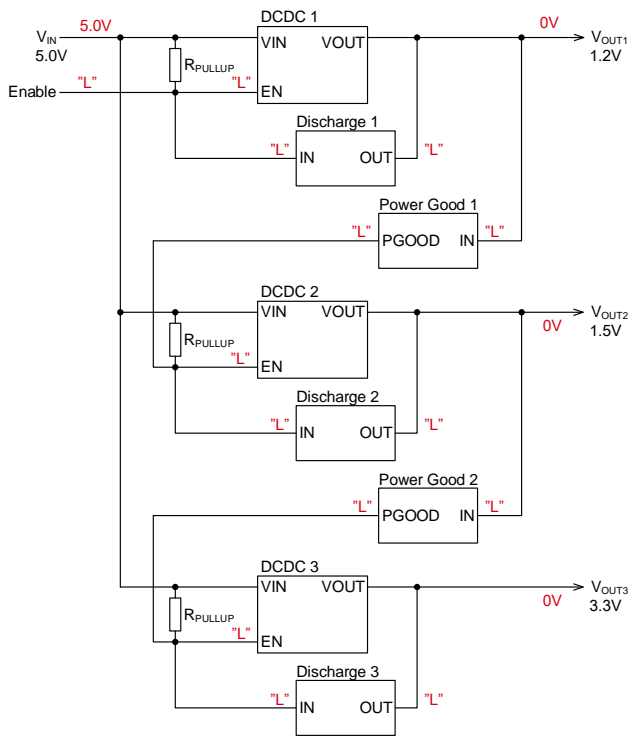

Figure 2-3. Control block diagram
Figure 2-3 shows the control block diagram. DCDC 1, DCDC 2, and DCDC 3 are the power supply ICs of 3 systems. Each output is controlled by the enable (EN) pin. Power Good 1 and 2 monitor the output voltage of the DCDCs when the power is turned ON, and output the “High” signal to the DCDC to be turned ON next when the output voltage reaches the target voltage. In addition, when turning the power OFF, the “LOW” signal is output to the DCDC to be turned OFF next when the target dropped voltage is reached. The Discharge blocks ensure the normal operation of the power supply sequence by rapidly discharging the electric charges stored in the output capacitor of the DCDCs to decrease the voltage when the power is turned OFF. Note that, in this block diagram, the logic is designed as Active High between EN and VOUT of the DCDC blocks, between IN and PGOOD of the Power Good blocks, and between IN and OUT of the Discharge blocks. In addition, the PGOOD pin (output) of the Power Good blocks and the OUT pin of the Discharge blocks are of the open-collector or open-drain type.